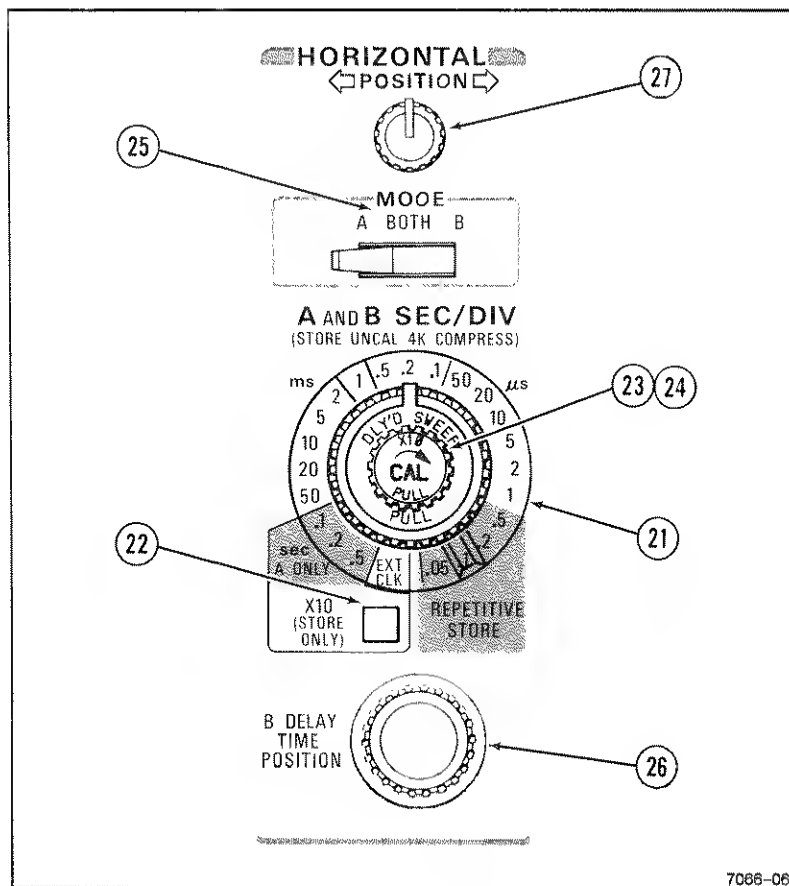

Figure 3-3. Horizontal controls.
Refer to Figure 3-3 for location of items 21 through 27.